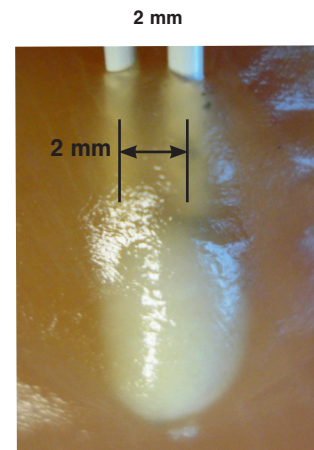

Figure 47 Contiguous Lesion 4.2 mm x 5.8 mm (width x length)
- Lesion sizes can vary significantly, and depend on local tissue and thermal conductivity, proximity to 'heat sinks' such as blood vessels, and to other thermal insulation such as bone. See the lesion sizes measured in chicken tissue in figures 47, 48, 49, and 50. Lesions were created at 80 °C for 90 seconds using a 5 mm active tip 20-gauge electrode. The measurements indicated below are approximate.